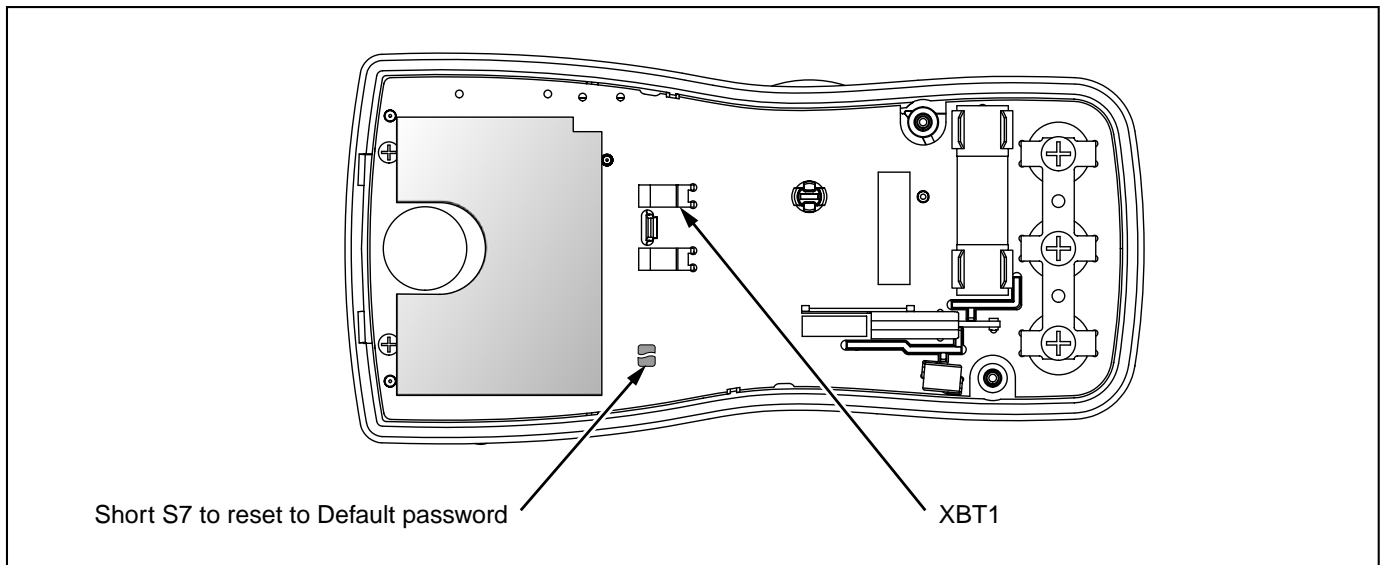

Figure 3. Calibration Password Reset
2. Apply 9.0 V across the battery contacts (XBT1) + and (XBT2) – on the back of the PCA. See Figure 3.
4. Short across the S7 CAL keypad on the back of the PCA. See Figure 3. The Meter should beep. The default password is now restored.